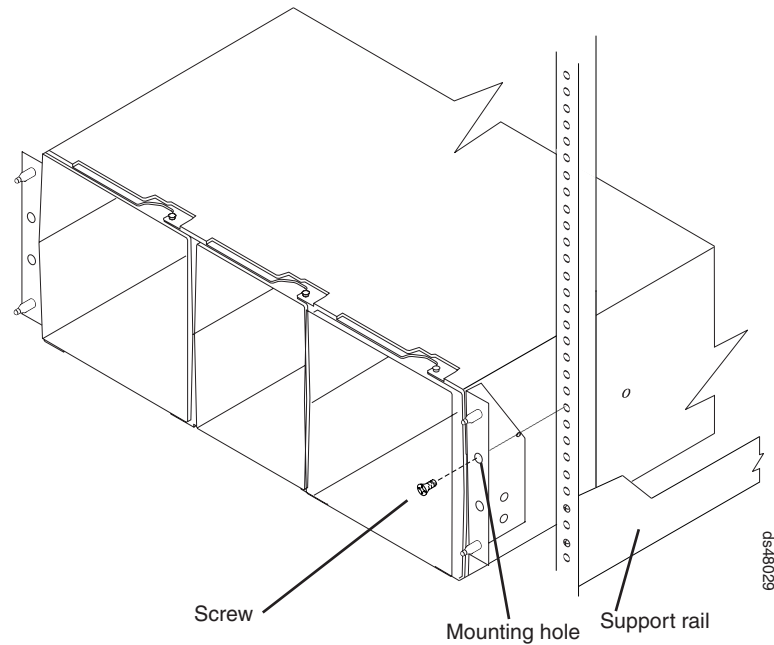

Figure 20. Securing the DS4800 to the rack cabinet
1. Remove the empty DS4800 Storage Subsystem from the shipping box and set the storage subsystem in the cabinet. Figure 20 on page 43 shows the correct orientation of the empty storage subsystem to the cabinet and support rail.
2. Secure the storage subsystem to the cabinet. Figure 20 shows how to secure the DS4800 to the vertical members of the cabinet.